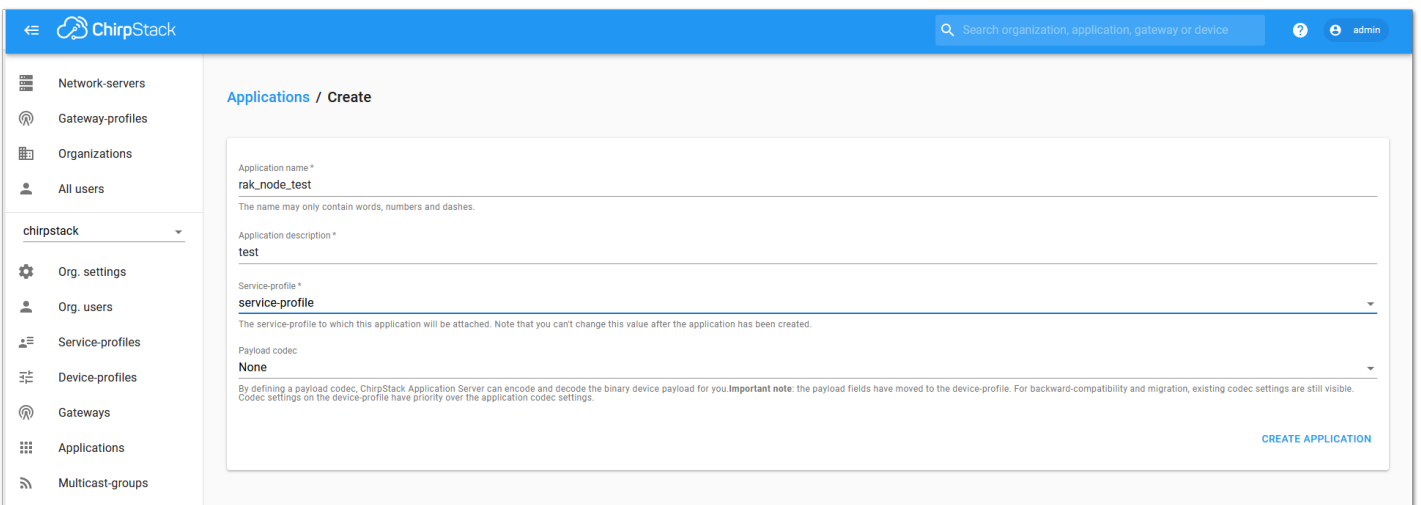
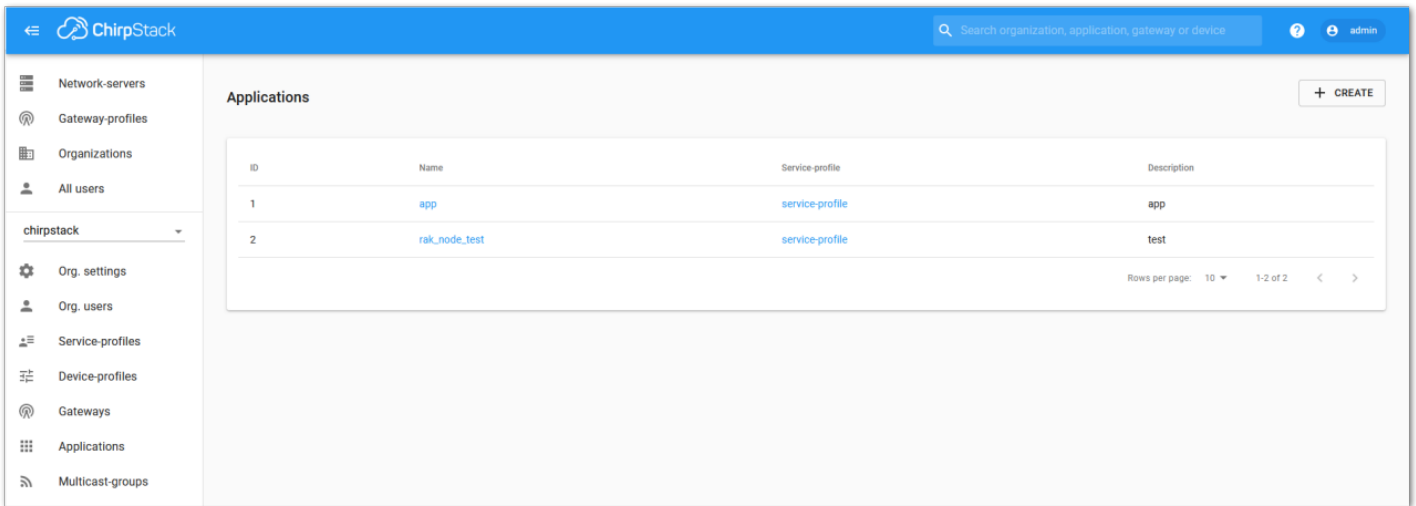

**Figure 193:** Creating a New Application
**Figure 194:** Filling Parameters of an Application
3. By default, you should create a new application, although you can reuse the existing ones. For this setup, create a new Application by clicking on the “**CREATE**” button, and filling the required parameters, as shown in **Figure 193** and **Figure 194**.